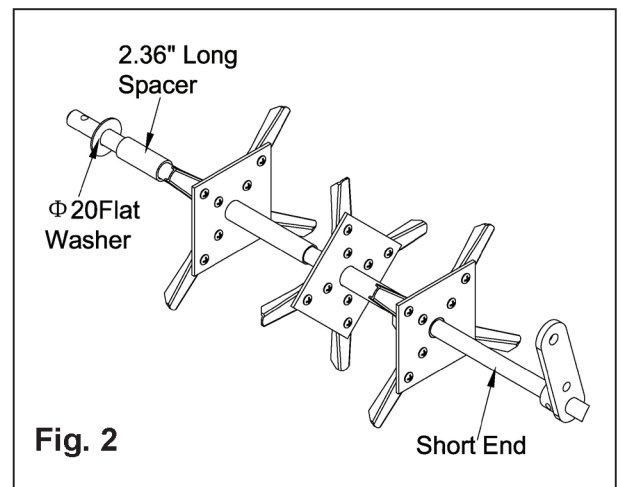

**Fig. 1**
1. Attach one wheel bracket to the middle hole of the axle shaft. Note the wheel bracket ring should point towards the shortest side of the axle. See Fig. 1. Attach the wheel bracket using a 1/4" x 1-9/16" Hex Bolt and a 1/4" Hex Lock Nut. Do not fully tighten.
2. Next, insert from the short side of the axle a 5/16" x 1-3/16" Hex Bolt into the hole on the wheel bracket closest to the axle. (Smaller hole) attach 5/16" Hex Lock Nut to the bolt. Do not fully tighten until later step. See Fig 1.